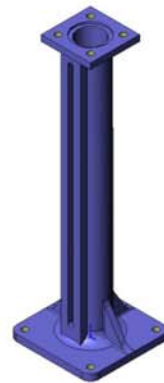

Fig. 5
- Straight floor stands (Fig. 5)